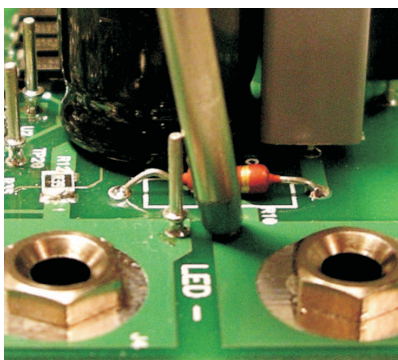

Figure 5. Typical Example of Tip and Barrel Measurement Technique
1. Expose the ground barrel of the scope probe. Insert the tip of the probe into the plated via located on the +Vout pad of the EVM (TP1) and lean the probe so that the exposed ground barrel is resting on the test point on the -Vout pad of the EVM (TP2) for a tip and barrel measurement as shown in the example depicted in Figure 5.